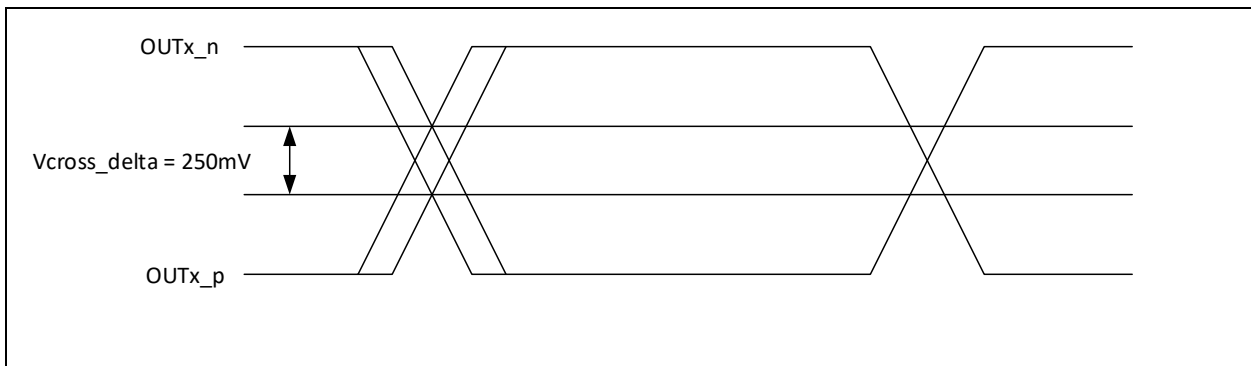
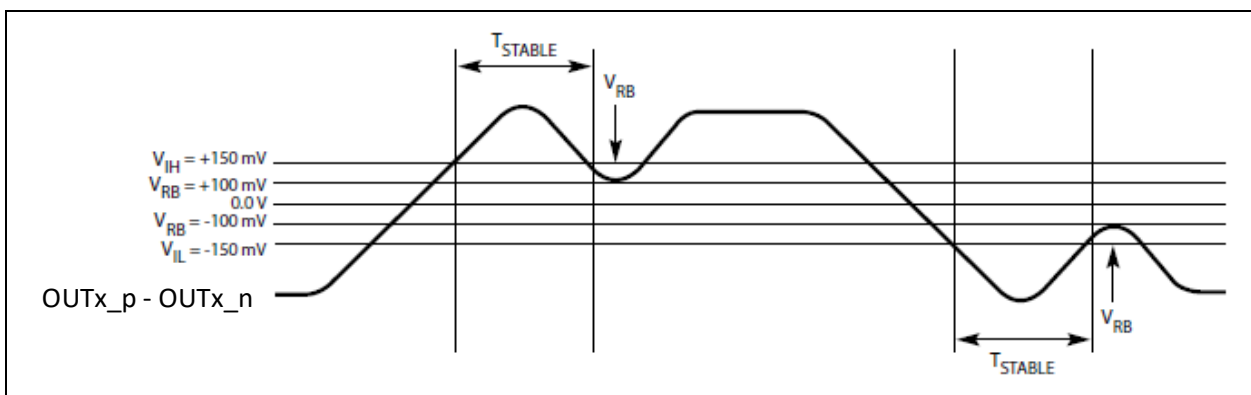

Figure 16. Single-Ended Measurement Points for Delta Cross Point
Figure 19. Differential Measurement Points for Ringback
(9) Defined as the total variation of all crossing voltages of Rising CK and Falling CK# This is the maximum allowed variance in VCROSS for any particular system. See Figure 16.
(10) The PPM requirement from PCIe Express Base Specification, Revision 4.0 is related to clock generation devices. This requirement is not applicable to buffers because buffer's output frequency accuracy is identical to the frequency accuracy of the source driving the buffer.
(11) T_{STABLE} is the time the differential clock must maintain a minimum ±150 mV differential voltage after 20 rising/falling edges before it is allowed to droop back into the VRB ±100 mV differential range. See Figure 19.